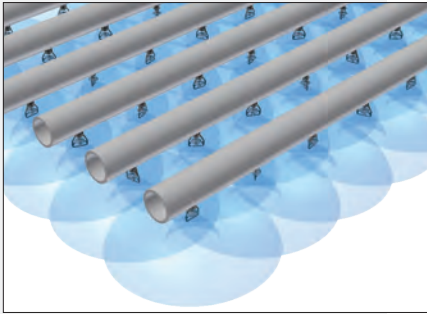

Figure 6. Nozzle Spray Pattern
- Start the system pump. Make sure the fan motor is locked out and tagged out. Check to see if the nozzles are all spraying consistently and producing the spray pattern shown in **Figure 6**.